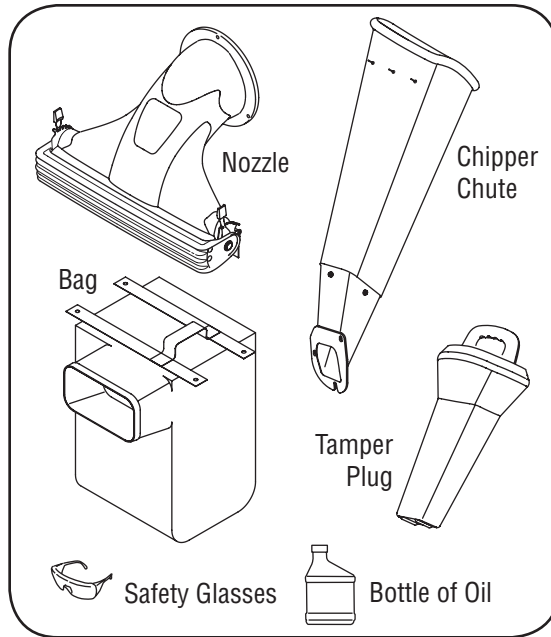

Figure 3-1
1. Following is the list of loose parts shipped with your equipment. Compare the parts with the illustration in Figure 3-1 to identify these items.